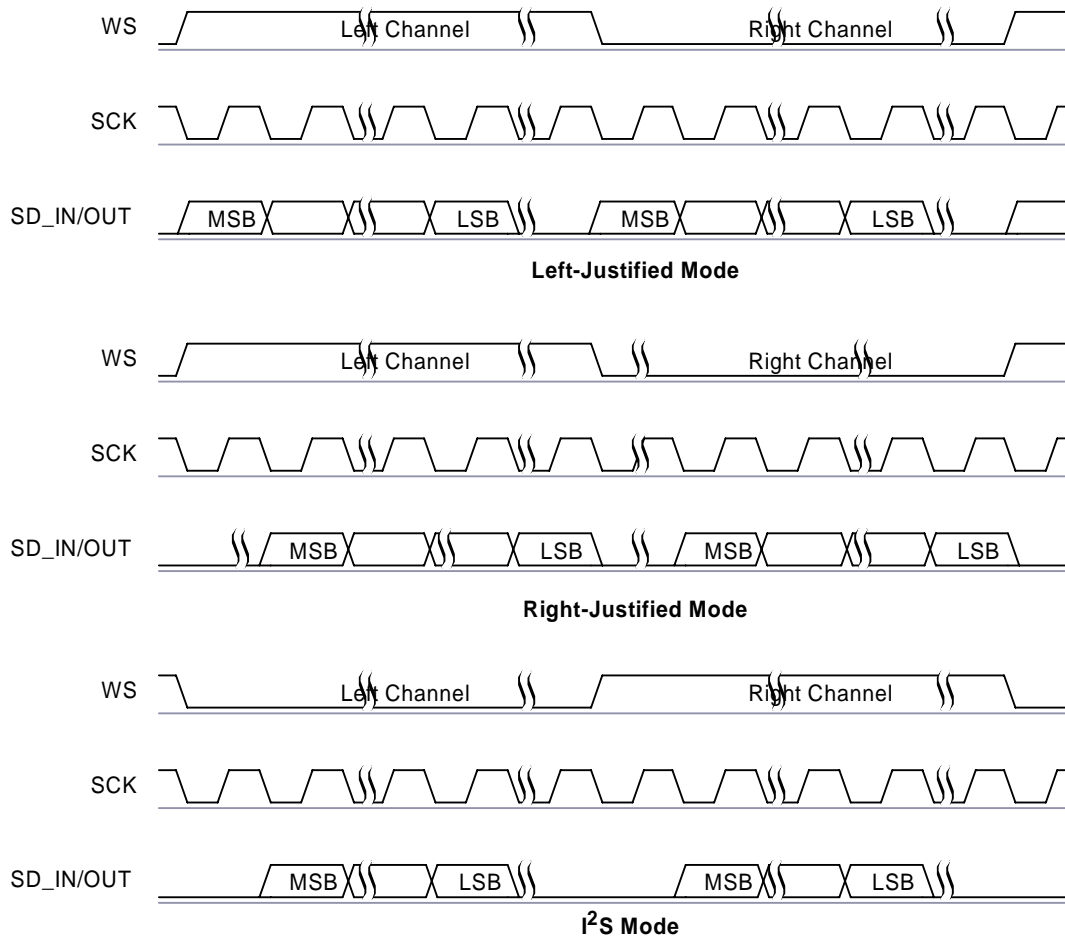

Figure 10.21: Digital Audio Interface Modes
The digital audio interface supports the industry standard formats for I²S, *left-justified* (LJ) or *right-justified* (RJ). The interface shares the same pins as the PCM interface, which means each audio bus is mutually exclusive in its usage. Table 10.11 lists these alternative functions. Figure 10.21 shows the timing diagram.